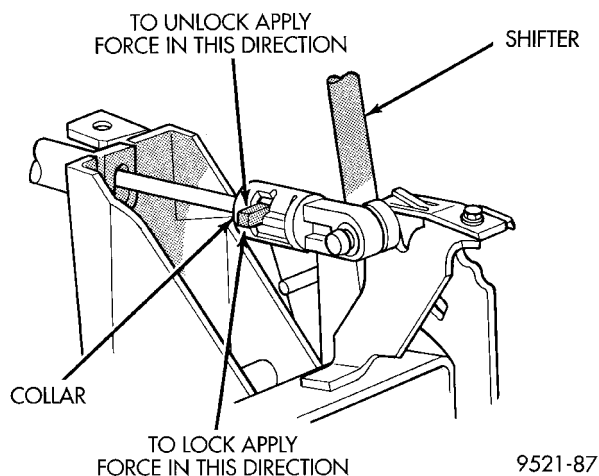

Fig. 205 Gearshift Cable Adjustment
- (1) Set parking brake.
- (2) Remove floor console. Refer to Group 23, Body.
- (3) Place gearshift lever in the (PARK) (P) position.
- (4) Push down on the tab and unsnap the collar at the shifter cable to allow the cable to be adjusted (Fig. 205).